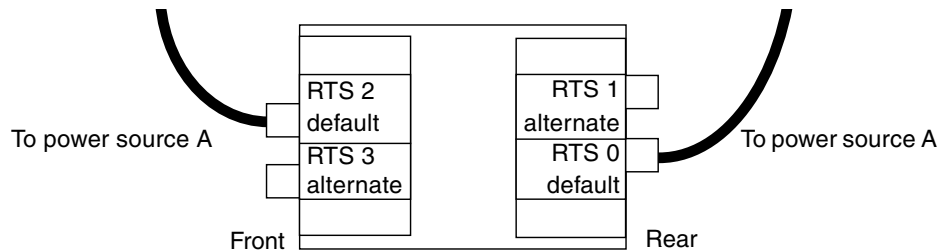

FIGURE 2-7 One AC Power Source
- In configurations with one AC power source there will be two cables to connect, one on the front (on the left), and one on the rear of the system (on the left) (FIGURE 2-7). Connecting the alternate RTS units to outlets that use the same power source as the default RTS units will adversely affect reliability.